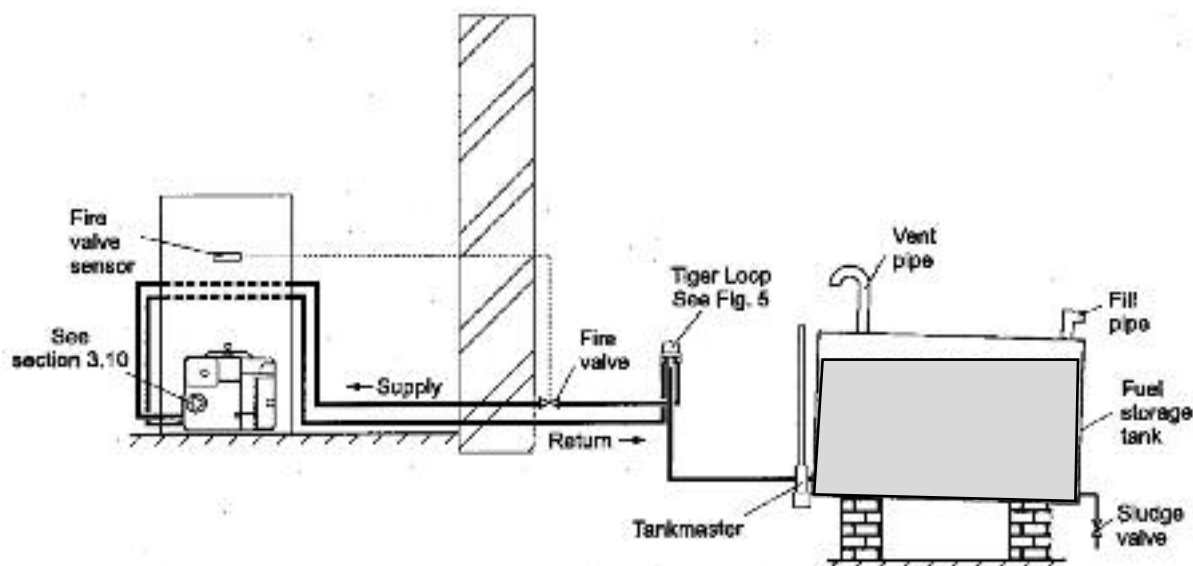

Fig. 4- Tiger loop system
- The use of a 'Tankmaster' and Tiger Loop is an ideal way of delivering an oil supply to the boiler. The Tankmaster unit, fitted to the storage tank, includes a filter, sight tube, shut-off valve and fire valve. A separate fire valve is required in the fuel line (outside) where it enters the room containing the boiler. See Fig. 4.
### 3.4.5 Tiger Loop system (See Figs. 4 & 5)
- 2 The Tiger Loop is connected close to the boiler as a two pipe system (omitting the non-return valve) as shown in Fig. 4. Refer to the manufacturers instructions supplied with the Tiger Loop. The Tiger Loop **must** be mounted vertically.